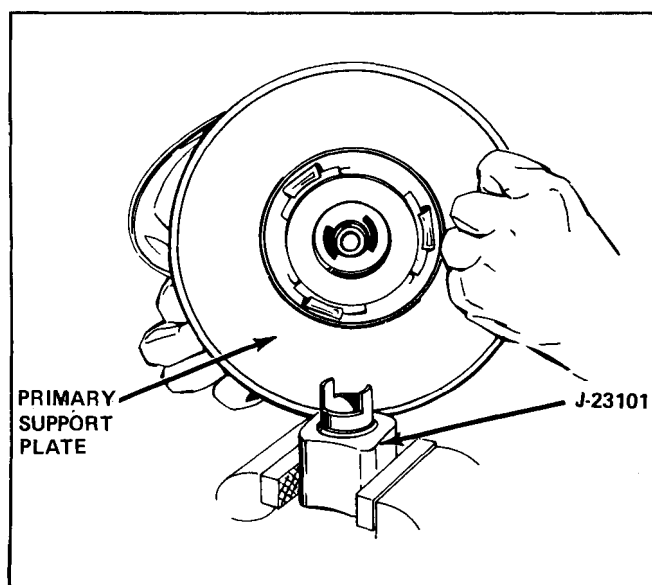

Fig. 5D-12 Preparing to Remove Primary Support Plate
17. Remove air valve-pushrod assembly from tube end of primary piston. It is recommended that a round-shanked screwdriver be inserted through the pushrod eye, and using the screwdriver as a handle, pull the air valve-pushrod assembly straight out (Fig. 5D-13).